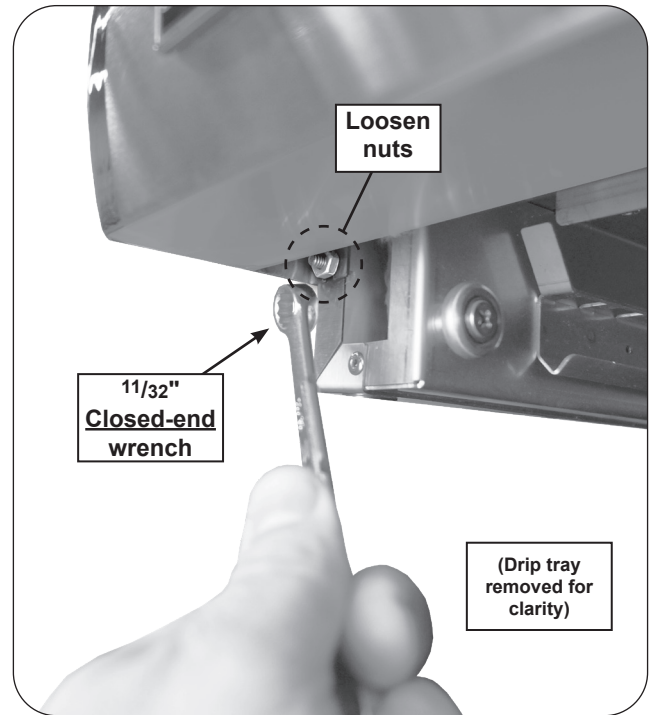

Fig. 36-1 Remove control panel
3. Loosen the nuts underneath the left and right sides of the control panel with a $\frac{11}{32}$ " wrench (see Fig. 36-1), then lift the panel until it is freed from the screws. Carefully rest the bottom of the control panel on the drip tray. The top of the control panel is supported by the internal chains.